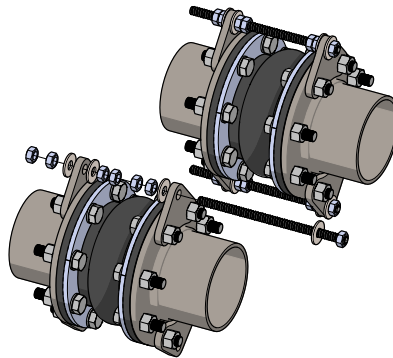

Figure 19: Control Rod Installation
Step 7: Insert the staked control rod with the washer attached through the control rod plate holes. Then secure the control rod to the control rod plates with the additional hardware as shown in Figure 19. Replace flat washers with spherical washers whenever application requires.